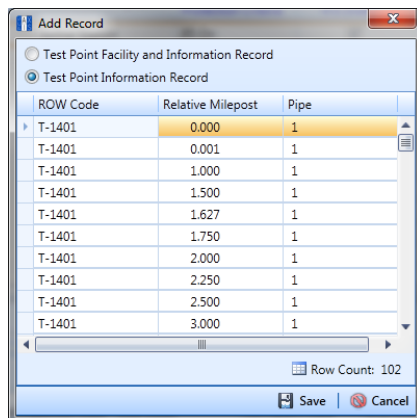

Figure 6-6. Add Record
6 Click **Add** to open the *Add Record* dialog box (Figure 6-6, page 172).
- b Select a pipeline with the facility you want to add an information record. For example, pipeline *T-1401* and the facility at *Relative Milepost 0.000* are selected in the next figure (Figure 6-6, page 172).